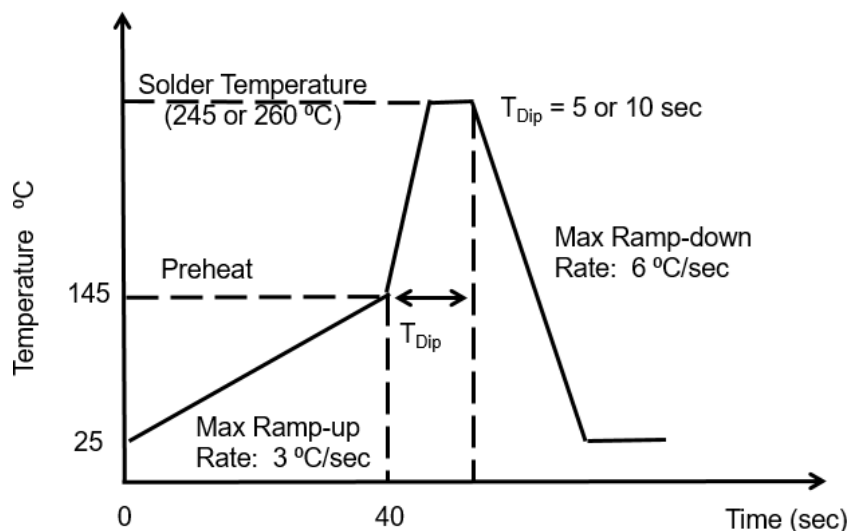

Figure 2 Classification profile for solder dip
- (2) Use the appropriate test conditions as defined in Table 7 and Figure 2,3, 4.